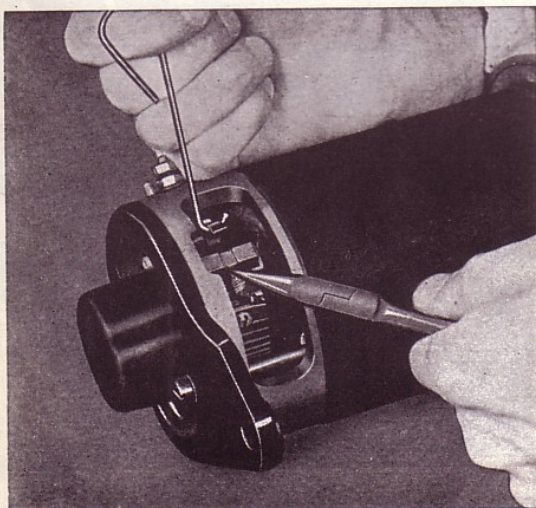

Fig. 22. Removing the brushes
2. Disconnect the brush connecting leads. Lift up the pressure arms or springs for the brushes with a hook and pull up the brushes as shown in Fig. 22.